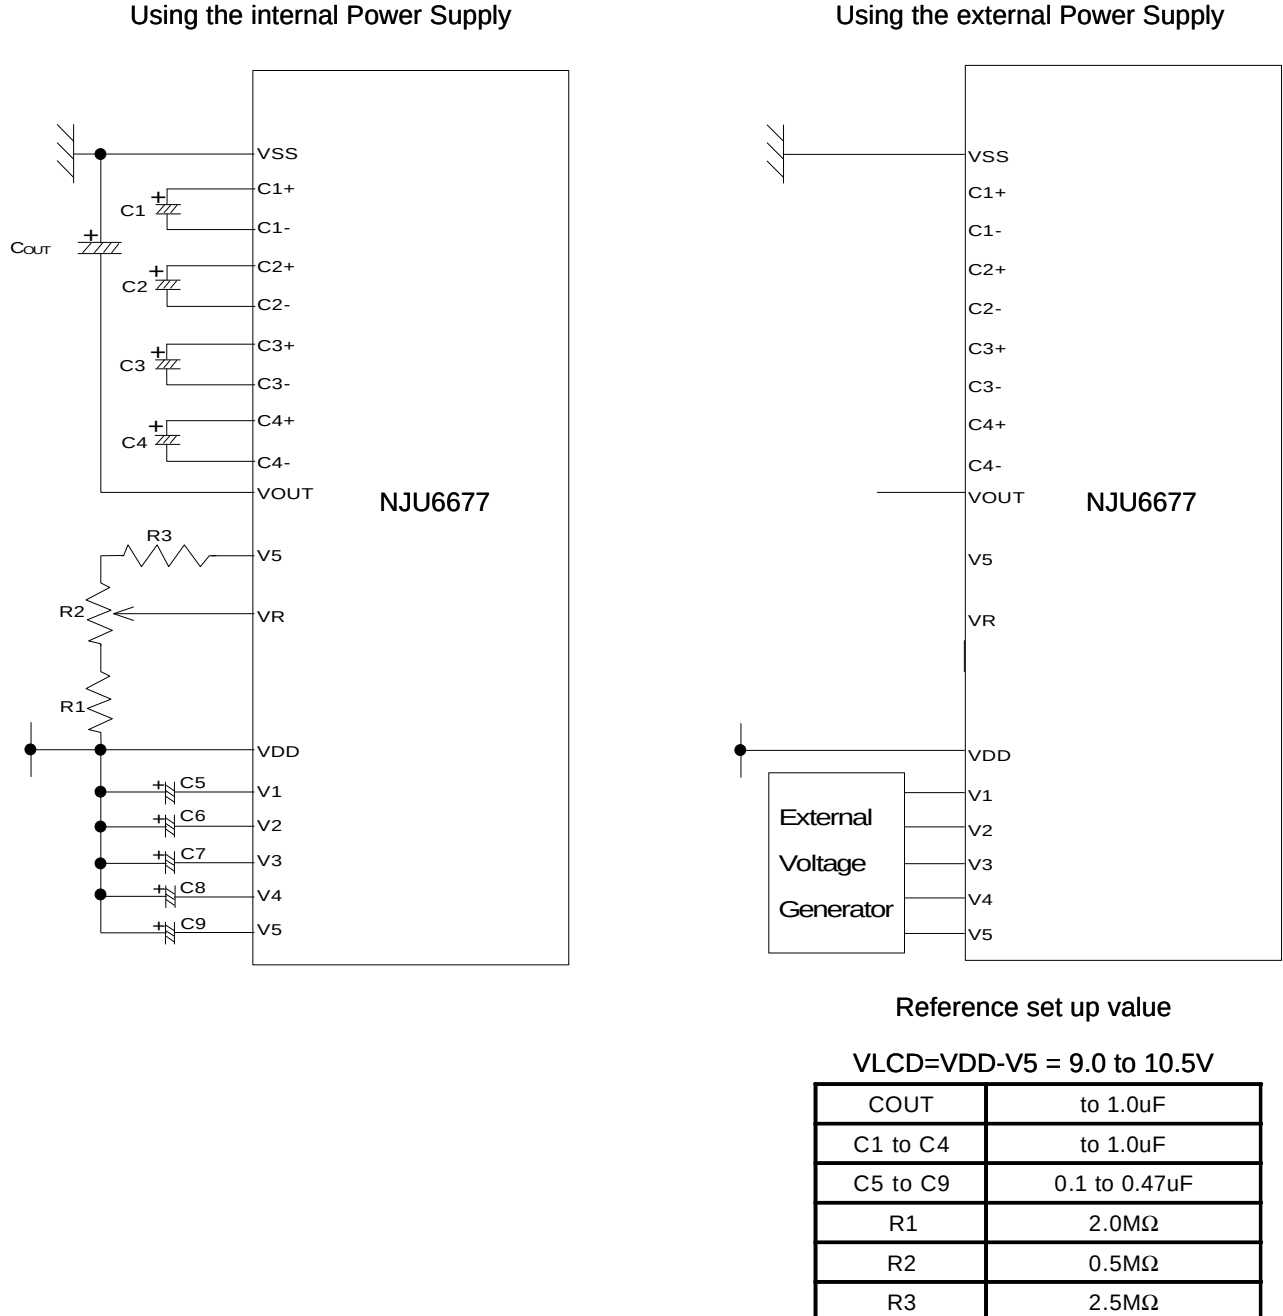

Fig.4
- *1 The wait time depends on the C1 to C9, COUT capacitors (refer (4) (d)Fig.4), VDD and VLCD voltage. Therefore it requires the actual evaluation using the LCD module to get the correct time. (Refer to the following graph.)
As shown in Fig. 4, Five capacitors are required to connect to each LCD driving voltage terminal for voltage stabilizing. And the value of capacitors C5, C6, C7, C8 and C9 are determined depending on the actual LCD panel display evaluation.